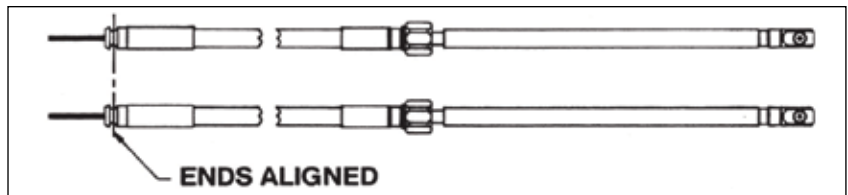

Figure 4.
STEP 2. Push both output rams of the cables to the fully retracted position. Make sure that they stay fully retracted during installation into the helm. Remove the protective sleeves from Steering Cables. Make sure that dirt does not get onto the lubricated cable ends. Hold both cables together at the helm end with the faces of the conduit fittings flush, as shown in Figure 4.